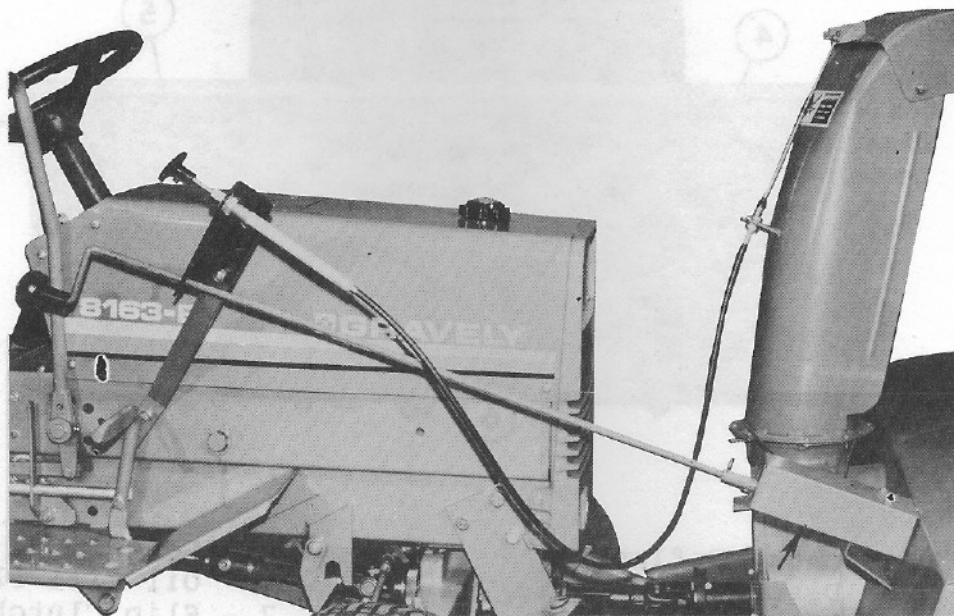

FIGURE 4
- 4.3 Place a few drops of oil behind spool holding lower end of chute crank periodically. See Figure 4.
5. Mount the crank support bracket to the crank bracket bar and mount to the right side of the tractor frame as shown in Figure 4.